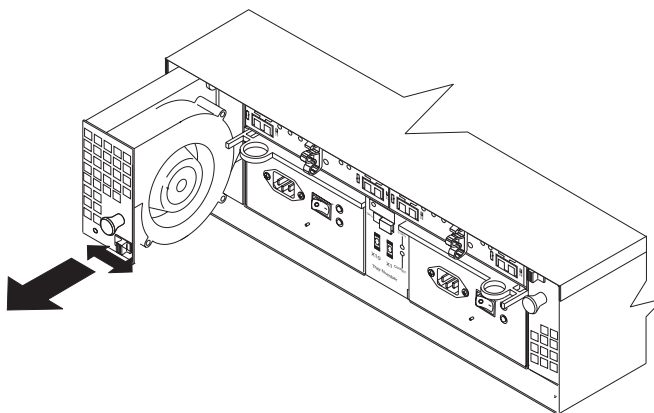

Figure 45. Replacing a hot-swap cooling fan
- b. Use the handle (black knob) to pull the fan from the fan bay as shown in Figure 45 on page 47.